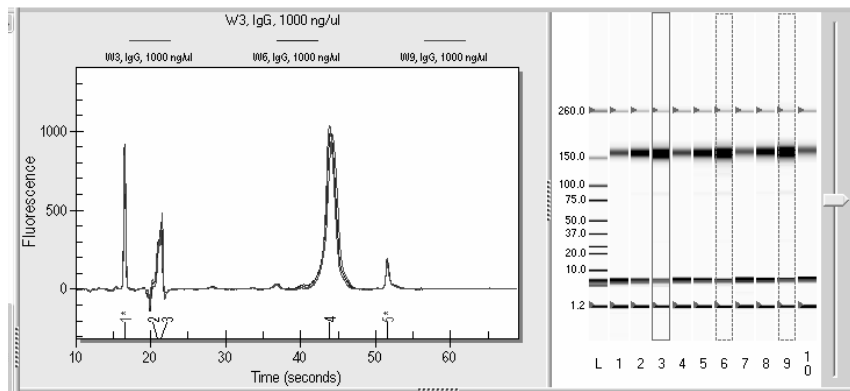

Fig. 1.11. Electropherogram overlay of the 1,000 ng/ul samples. The virtual gel (right) shows that the samples in wells 3, 6, 9 are being compared.
9. To perform a qualitative evaluation of quantitation reproducibility, overlay the electropherograms of replicate samples. For example, in the virtual gel, select lane 3 and hold the Ctrl key while selecting lanes 6 and 9. The electropherograms from these wells (1,000 ng/ul samples) overlap (Figure 1.11). Tighter overlaps signify better reproducibility. Repeat this step for the other two concentrations examined.